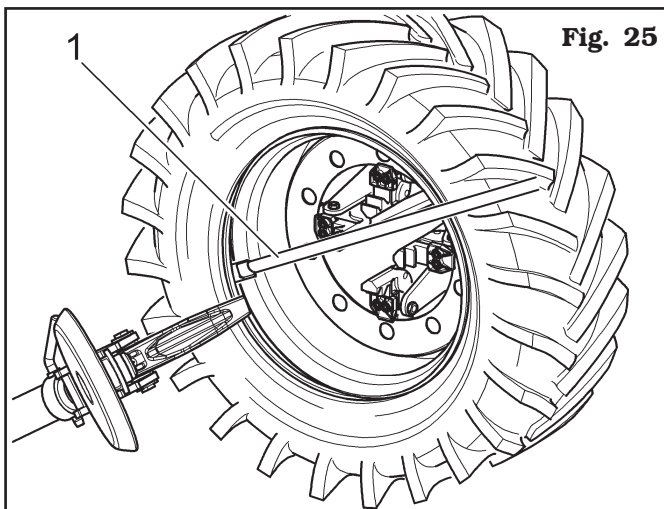

Fig. 25
- Insert lever (**Fig. 25 ref. 1**) between the rim and the bead on the right-hand side of the tool.